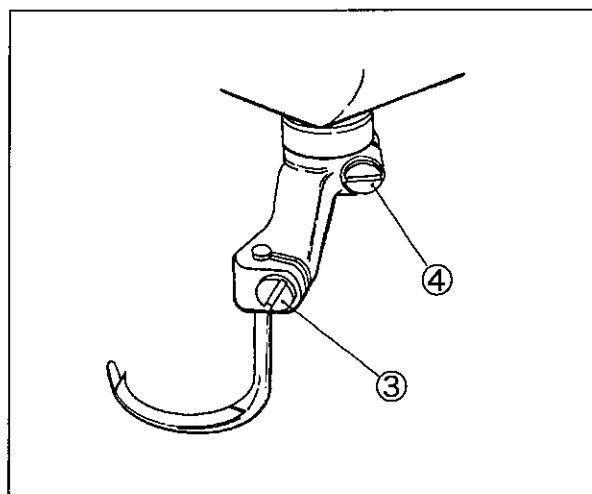

Fig. 47
- (1) Loosen the screws ③ and ④ of the spreader holder. (Fig. 47)